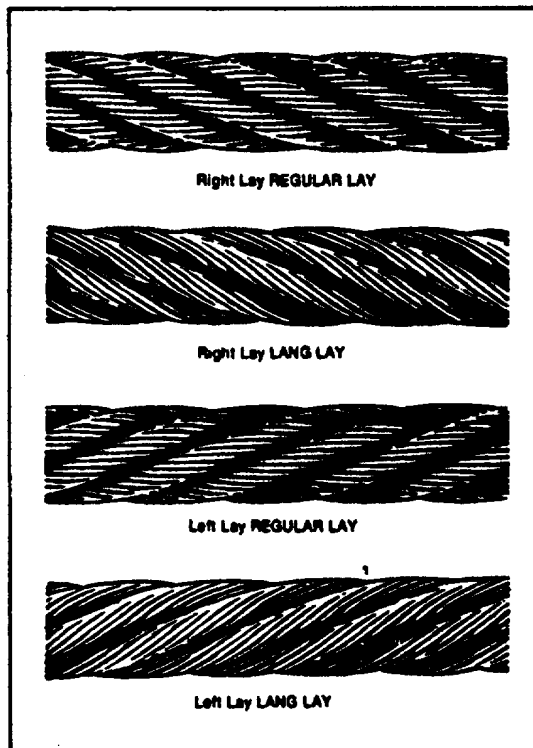

Fig. 2-6 Rope lays
- b. Fiber cores are simply small diameter fiber ropes. Most fiber cores (FC) are made of polypropylene. A fiber core provides maximum flexibility and elasticity to the wire rope structure. However, fiber cores are susceptible to crushing due to their relative softness.
- a. Plow steel (PS): lowest break strength, lowest resistance to wear, highest fatigue life.
- a. The direction of twist of the strands in the rope determines if the rope will be right or left lay. The lay of a rope has three different meanings. The lay could be the direction of twist of the wires in a rope, the direction of twist of the strands in a rope or a length along a rope. When looking at a wire rope (See **Figure 2-6**), if the wires appear to run along the length of the rope it is known as regular lay. If the wires look as if they are running across the rope it is known as lang lay. All Coast Guard ropes are regular lay.
- (1) Right-regular lay: The individual wires of the strand are laid up to the left and the strands are laid up to the right. Regular lay ropes are less likely to be kinked, and give additional resistance to crushing, distortion and rotation.
- (2) Right-lang Lay: Both the wires of the strands and the strands are laid up to the right. Lang lay rope gives increased wearing surface for certain types of service resulting in longer life for the rope. Lang lay rope offers greater flexibility but has a tendency to crush and untwist. It should not be used with a swivel or in a single part hoist.
- (3) Left-regular lay: This lay is the opposite of Right-Regular Lay above.
- (4) Left-lang lay: This lay is the opposite of Right-Lang Lay above.
- (5) Reverse lay: The strands are laid up to the right and the individual wires of the strands are laid up to the right and left alternately. Reverse lay ropes